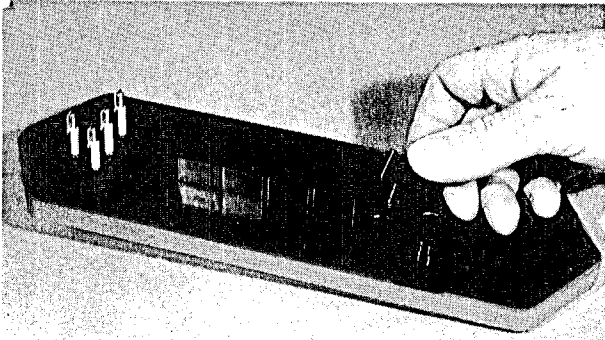

Figure 36
1. Set the lower insulators in place on the terminal plate (Figure 36).